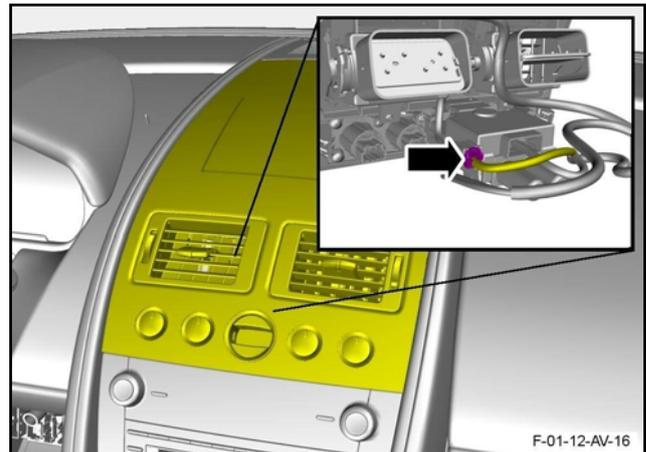

Figure 5
6. Disconnect the electrical connector from the ignition switch module (Refer to Figure 5).